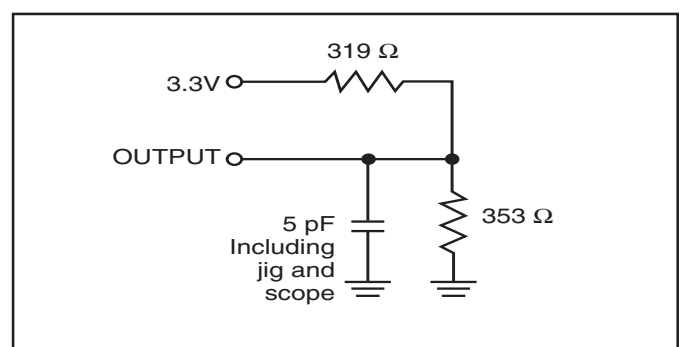

Figure 2.
2. Tested with the load in Figure 2. Transition is measured ±500mV from steady-state voltage.
2. Tested with the load in Figure 2. Transition is measured ± 500 mV from steady-state voltage. Not 100% tested.